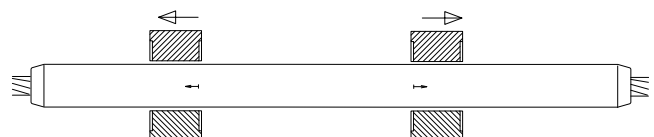

Fig. 4
- 6 Finally, compress the aluminium sleeve with the appropriate dies for aluminium (stamped on the sleeve), starting at the root of the arrows and in the direction that they point to until you reach the ends, overlapping the compressions by approximately 20%. You will see that there is a central area in the sleeve which has not been compressed. This corresponds to the area where the steel sleeve is situated. **(Fig. 4)**